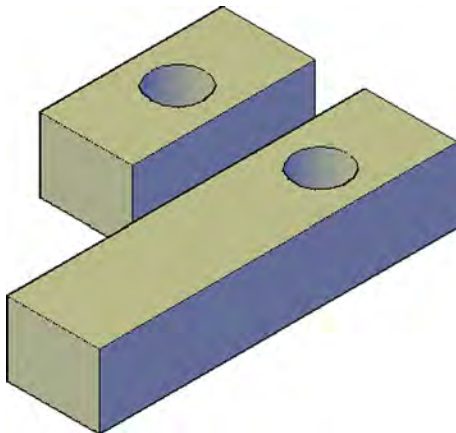

FIGURE 25.21
- Step 2.** AutoCAD once again runs through the lengthy solid editing menu and asks you to select a face. Pick the face you want to offset and press Enter. AutoCAD then asks you to specify the offset distance. Enter some value, and you see the result, similar to what is shown in Figure 25.21.